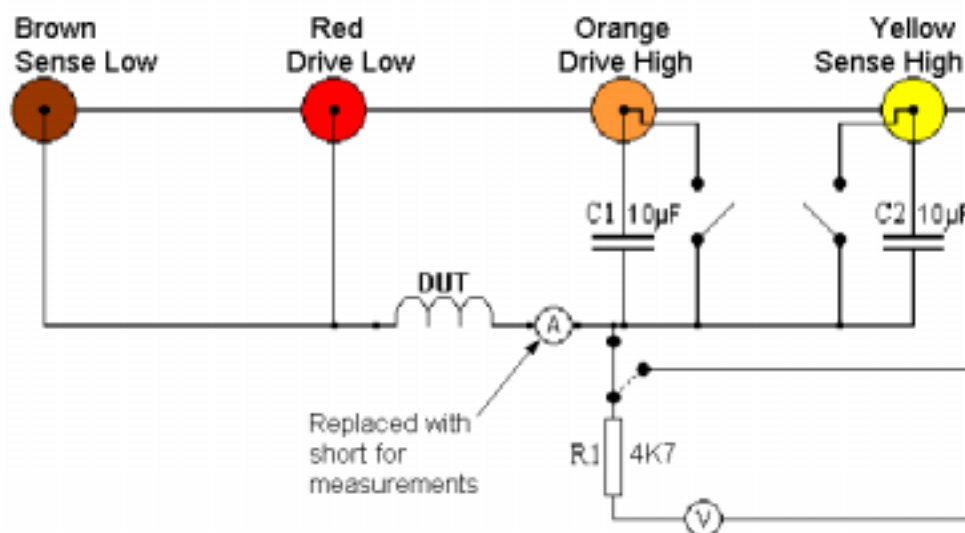

Figure 3.
None of the switches shown in figure 3 are required for the basic operation of the external bias source. However, S2 and S3 will allow certain operations to be performed that would otherwise require the external bias source to be removed. In addition, though not required, switch S1 is recommended.
Fitting a switch (single pole double throw) in the position marked S1 in figure 3 will allow the PSU output to be disconnected from the circuit and connected directly across R1. This removes the need to switch off the power supply for measurements with no bias current. Just switching off the power supply may leave a small residual voltage, which could cause measurement errors.
- 3) The external bias circuit should be put together following the circuit sketched in figure 3. The circuit can be built on strip board or similar prototype material. If a large number of bias boxes are required then another method of producing the circuit boards may be feasible. Once constructed the circuit board needs to be securely fitted in to the case. The board should be mounted in the box, ideally on pillars, in such a way that the circuit cannot short out on the metal case. The ground rail(s) should be connected to the case. An ideal way to do this would be to connect the ground rail(s) to a tag on one of the BNC connectors or the Earth terminal 4mm socket.
Connect the ammeter into the circuit as indicated in figure 3, in series with the DUT. Adjust the voltage to give the desired current and replace the ammeter with a shorting link.